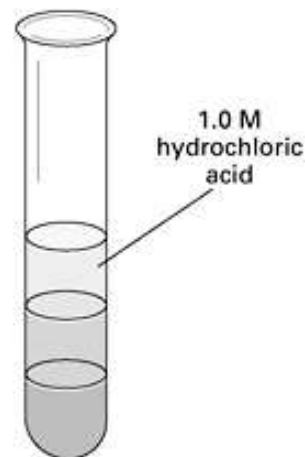

Figure 3
8. Add the 1.0 M hydrochloric acid (HCl) to the third mark, as shown in **Figure 3**. Mix with the stirring rod. Rinse the stirring rod.